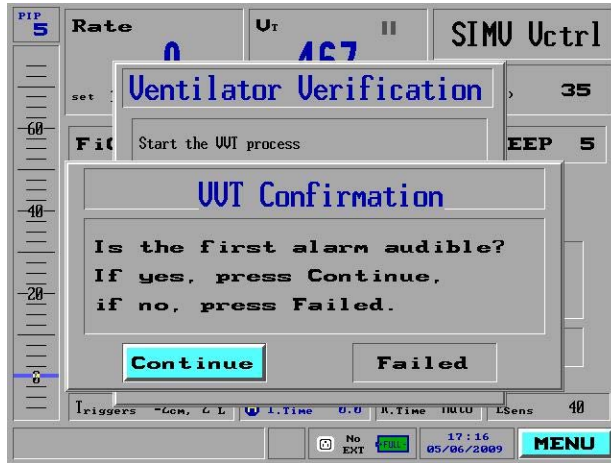

Figure 159: The VVT Alarm Test Pop-Up Window
1. The VVT window asks if the first alarm is audible. If you can hear it, select **Continue** to proceed (Figure 159).